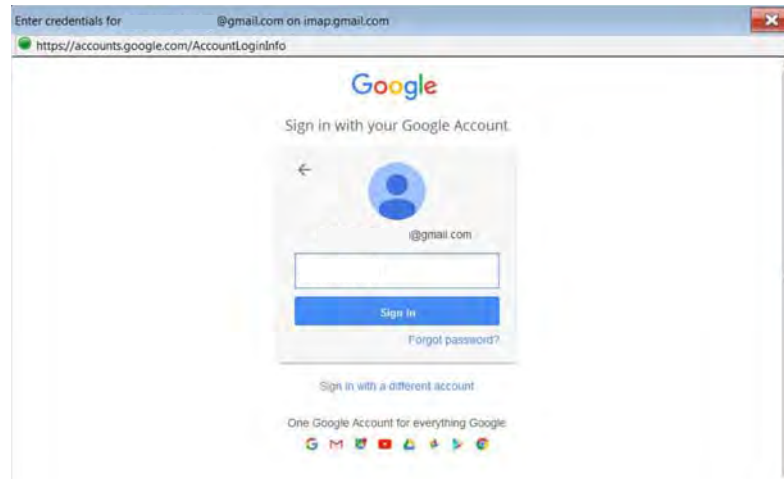

Figure 10-14
6. If your existing email provider login screen displays, enter your email address and password to allow the client to continue the setup with your provider (Figure 10-14).